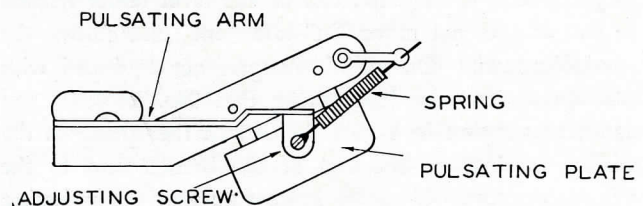

FIG. 8
B. The pulsating plate in the trip mechanism is actuated by the pulsating arm and the cam on the underside of the turntable. If the pulsating arm is loosely riveted to the bracket, the screw on the end of the pulsating arm will move back and forth over the pulsating plate. This changes the distance the plate is lifted by the pulsating arm and affects the trip adjustment. A spring has been added in production to hold the end of the lever under tension so that it does not move "in" and "out" and change the trip adjustment. On record changers not equipped with this spring, use the lead spring Part No. 28-8919 and connect as shown in Figure 8. Attach the spring to the wiring terminal on the end of the bracket and to the adjusting screw. Check to make sure that the pulsating roller does not scrape the hub on the underside of the turntable.